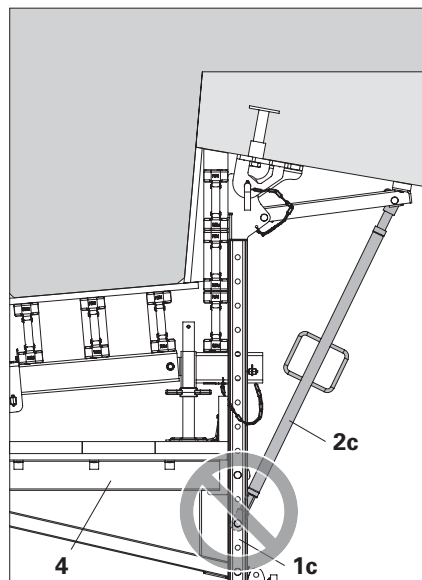

Fig. A4.03a
- Kicker AV 140 (**2c**) is always connected to the base of Bracket Post VGK 139 (**1c**) by means of bolts and cotter pins. (Fig. A4.03a)
- Never attach Kicker AV 140 (**2c**) between the fixing points of Platform Cantilever Beam VGK 170 (**4**). (Fig. A4.03a)